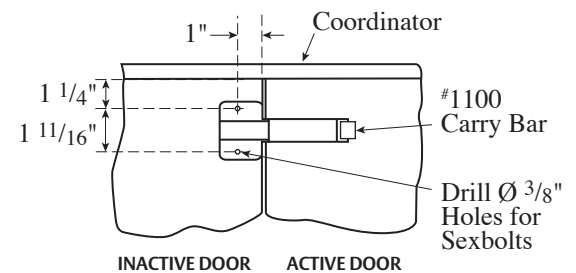

Fig. 3
3. Install carry bar when required (Fig. 3).